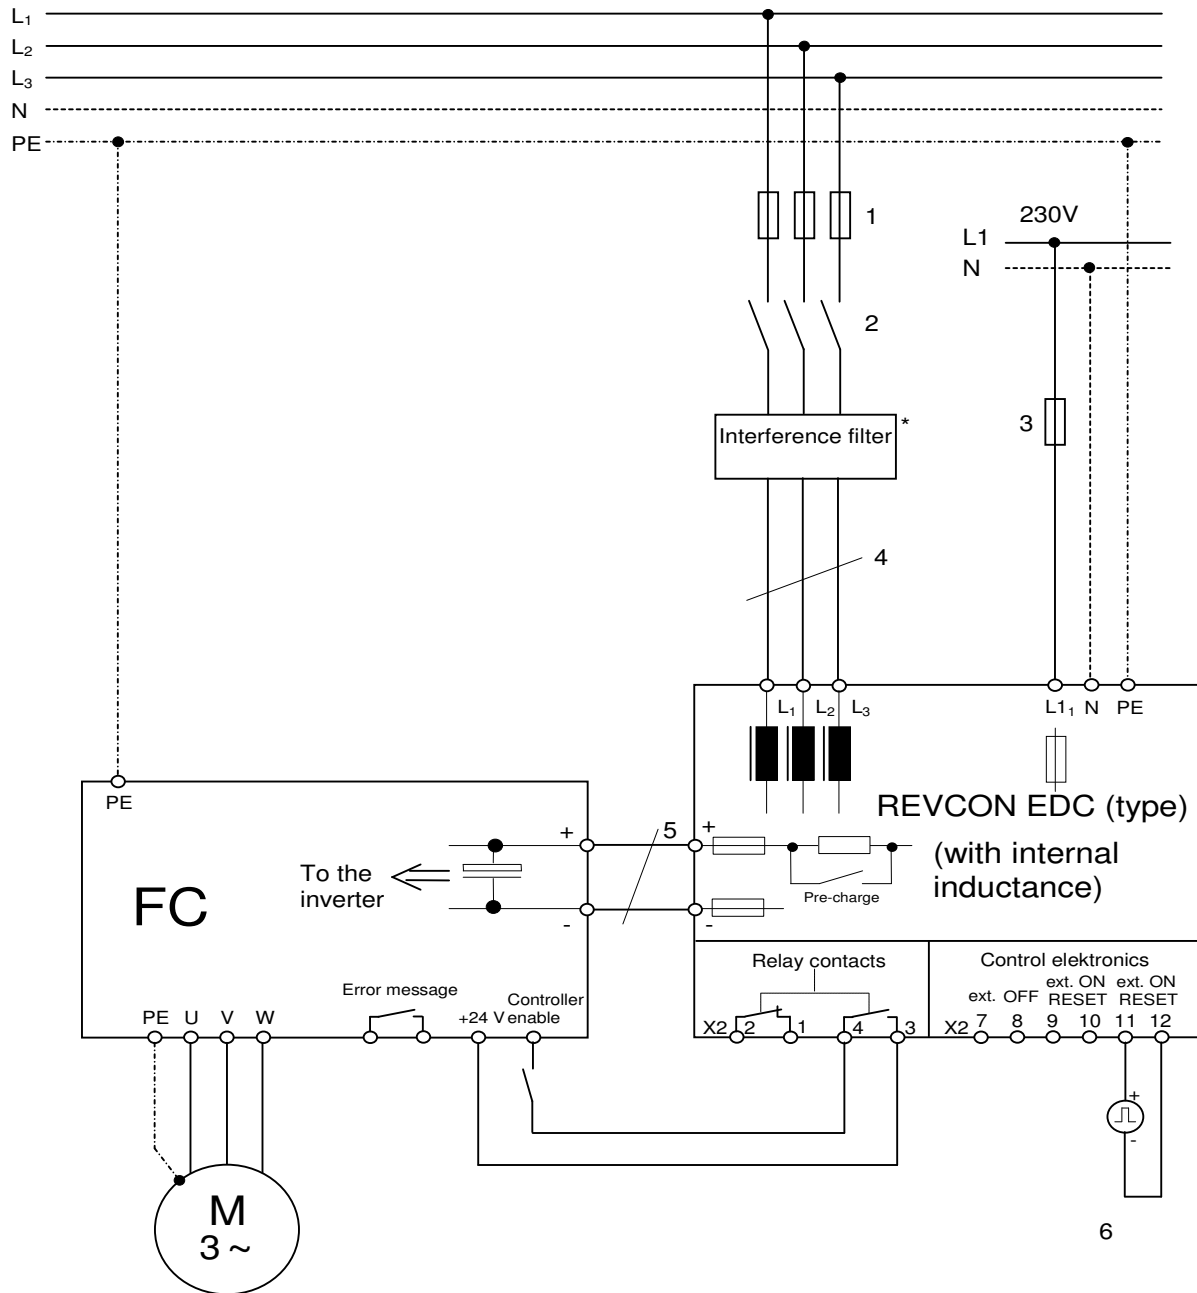

Figure 4.4.1.1.1 Wiring schematic of the rectifier unit REVCON® EDC and one or more controllers
**Legend for figure 4.4.1.1.1 (REVCON® EDC)**